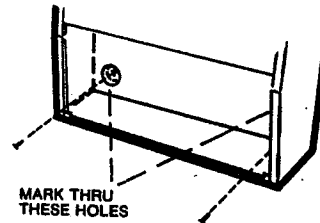

FIG. 6. LOWER FIXINGS
Step 6. Mark the lower holes for drilling as shown in Fig. 6. Remove heater and drill holes and secure anchors. Re-hang the heater and secure by fixing screws through the recessed holes located at the bottom of heater.